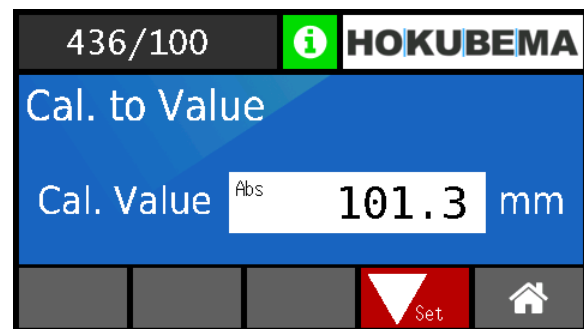

Figure 33: Input of the reference value
- Enter the measured value (z. B. **101.3 mm**) into the **"Cal. Value"** field (see ⇒ Figure 33):